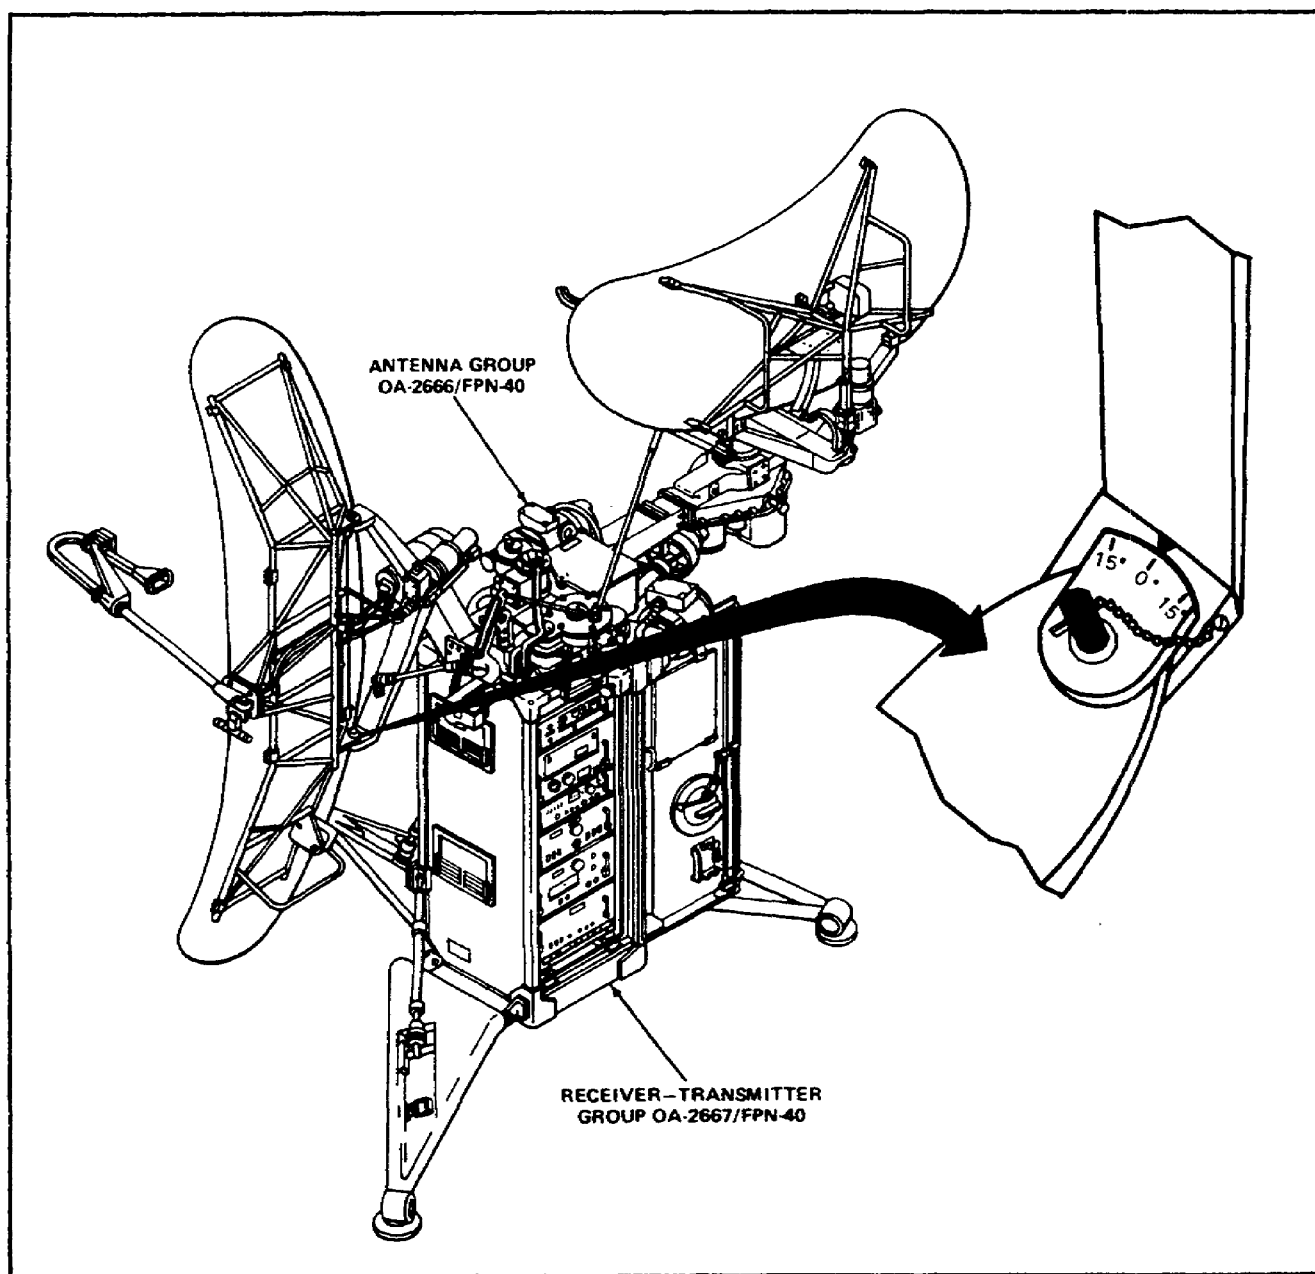

Figure 27. AS-1080/FPN-40.
d. Locate the elevation servo protractor on the elevation antenna AS-1080/FPN-40. (See Figure 27.)
- _____ Elevation servo protractor (Figure 27)